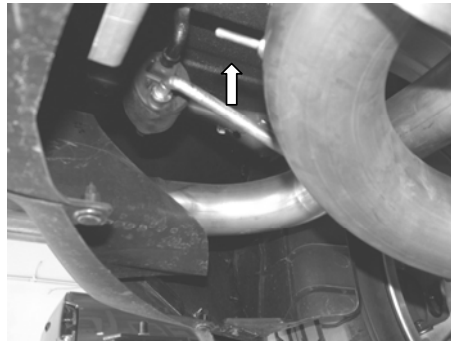

Figure 5
4. Using the hardware provided with your system, install the ground strap onto the stud shown in figure 5 located on the muffler inlet pipe.